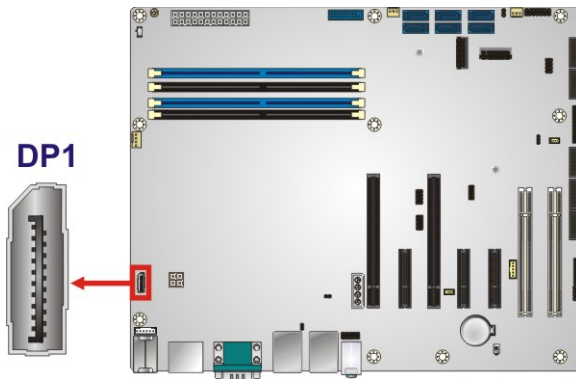

Figure 3-9: DisplayPort Connector Location
- CN Location:** See **Figure 3-9**